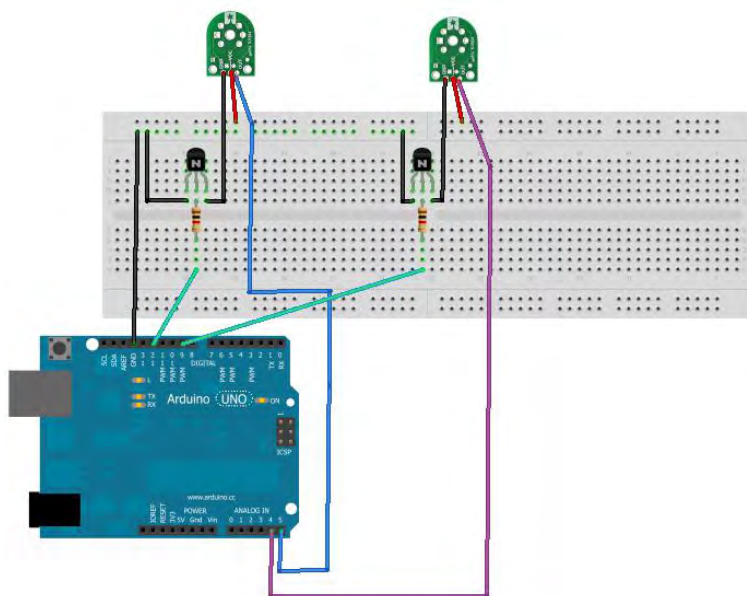

Figure 2-8. Step five.
5. Connect the data lines from the sensors to Arduino analog ports 4 and 5 (Figure 2-8).